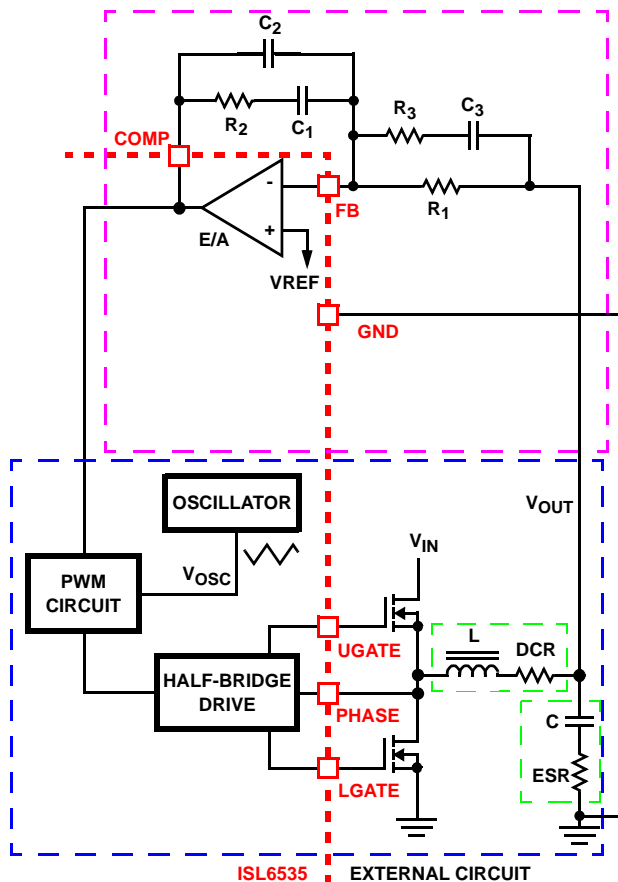

FIGURE 7. VOLTAGE-MODE BUCK CONVERTER COMPENSATION DESIGN
Figure 7 highlights the voltage-mode control loop for a synchronous-rectified buck converter. The output voltage is regulated to the reference voltage level. The error amplifier output is compared with the oscillator triangle wave to provide a pulse-width modulated wave with an amplitude of V_{IN} at the PHASE node. The PWM wave is smoothed by the output filter. The output filter capacitor bank's equivalent series resistance is represented by the series resistor ESR.
1. Select a value for R₁ (1kΩ to 10kΩ, typically). Calculate value for R₂ for desired converter bandwidth (F₀). If setting the output voltage to be equal to the reference set voltage, as shown in Figure 7, the design procedure can be followed as presented.